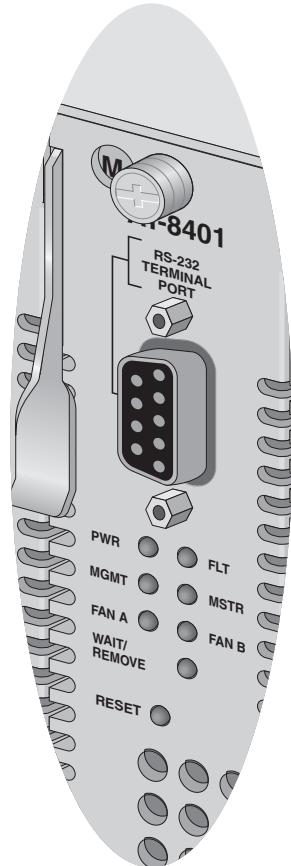

Figure 35 AT-8401 Management Card LEDs
4. Examine the LEDs on the AT-8401 management line card. See Figure 35.